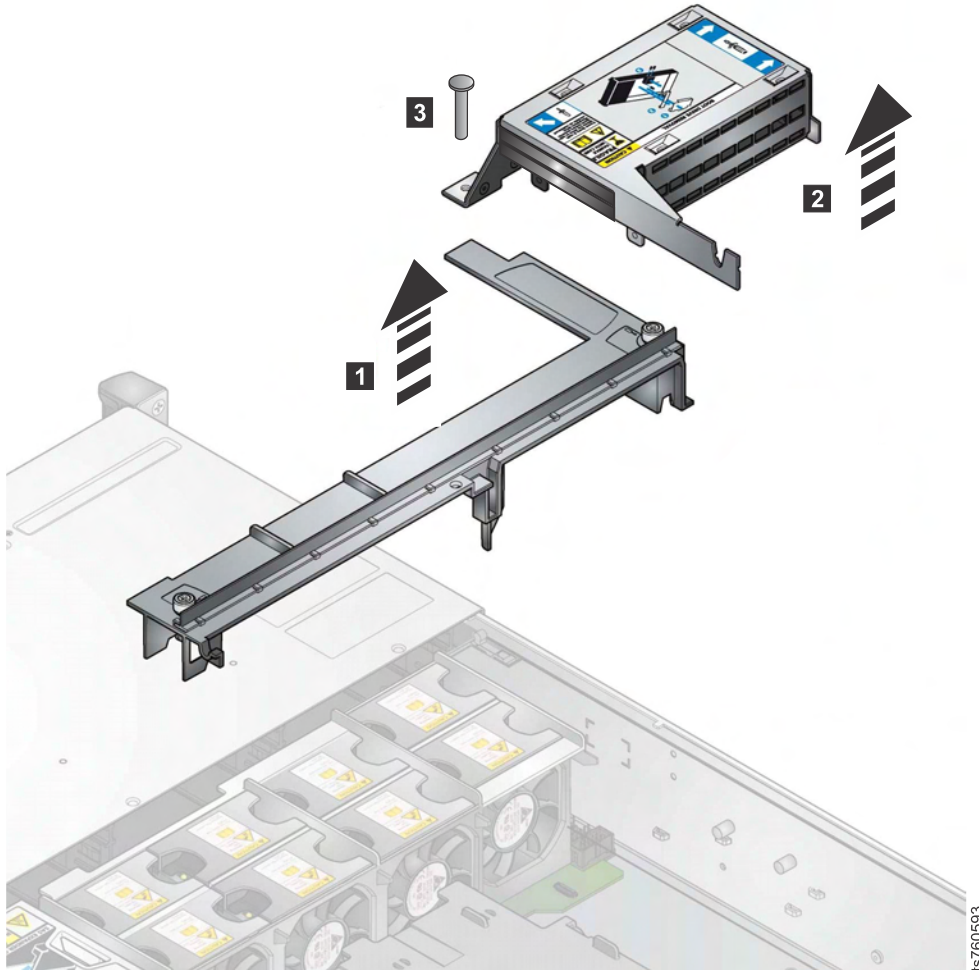

Figure 45. Boot Cage Assembly Retention Screw
- a. Refer to Figure 45. Three mounting points hold the boot drive cage in place; a retention screw, and two mounting points on the inside of the chassis. With a screwdriver, remove the single upright retention screw **3** from the boot drive cage. You might need to use pliers to hold the post stationary to unscrew the retention screw.
- b. Hold the boot cage and gently pull toward to the center of the chassis. Continue pulling until the boot drive assembly is pulled free from the two mounting pins on the inside of the chassis. Refer to Figure 45 which shows the boot drive assembly and the mounting pins. The boot drive assembly consists of a boot drive cage, two boot drives and a small backplane board.